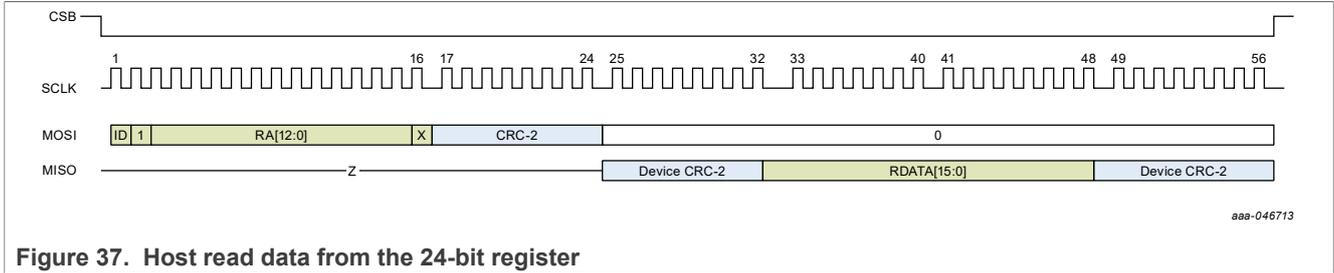

Figure 37. Host read data from the 24-bit register
Figure 37 shows host read data from the 24-bit register. The host sends the first CRC byte, calculated based on the first 16-bit word, which includes device ID bit, RWL bit, RA bits, and don't care bit (0). The second CRC byte is from the device to the host. It is calculated based on RDATA from the device to the host. Figure 37 also shows host read data from the 16-bit register.